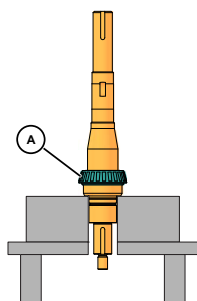

Figure 49 - Press Lower Cone onto Shaft
3. Lift the lower cone and roller assembly (Figure 49, item A) out of the bearing stack and place it on the shaft with the radius facing down. Press it onto the shaft until it is seated against the shaft shoulder. **Press only on the inner cone.**